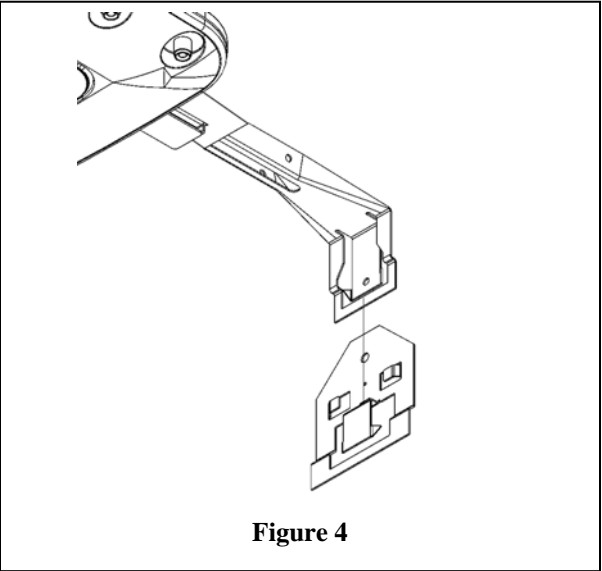

Figure 4
Step 4 – Attach the hanger bar extensions to the hanger bar on both ends as shown in Figure 4. The hanger bar extensions should snap into place when installed correctly.